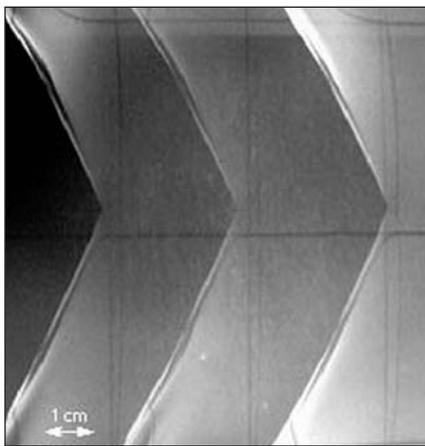

Figure 1. Multiple-exposure photograph of a crack propagating in a rubber sample ( $\lambda_x = 1.2$ ,  $\lambda_y = 2.4$ ); speed of the crack,  $\sim 56$  m/s.
Figure 1. Scanning electron micrograph showing a complex structure consisting of welded  $\text{SiO}_2$ -single-walled carbon nanotubes. Reprinted with permission from *Chem. Mater.* **16** (14) (July 13, 2004) p. 2692. ©2004 American Chemical Society.
cate solution. Addition of ethanol induces the formation of silica acid,  $\text{Si}(\text{OH})_4$ , which quickly condenses onto SWNT surfaces to form polysilicic acid, that is, amorphous silica. The suspension consists of individual and bundled SWNTs, so the coated structures consist of individual and bundled SWNTs as well. Colorado and Barron also prepared films that they said formed mats composed of overlapping and interwoven coated tubes and bundles. The researchers said that scanning electron microscopy revealed a variety of unique nanostructures, including loops, curls, interconnects, and bridging structures (see Figure 1). Furthermore, the researchers showed that the coating process effectively fastens short tubes together to form longer structures. Colorado and Barron said that they are now "examining the potential of solution-based methods of producing silica-coated SWNTs and mats for manipulating conducting/semiconducting SWNTs and insulating coatings to assemble useful nanoelectronic devices."
All forms of this enantiomorphous compound are present as an isotropic liquid at temperatures above ~105°C and as a smectic liquid crystal at sufficiently low temperatures. Beyond that, interesting new phase transformations were observed, depending on the chiral composition of the materials. The even-membered chiral molecules (SS2, SS4, and RR4) were seen to transition into a mesophase, denoted as M2, that exhibited a striped "parquet-like" texture. In addition, SS4 and RR4 formed another mesophase (M1) between the isotropic liquid phase and M2. This M1 phase is characterized by its optical isotropy, regardless of orientation. Peaks observed during differential scanning calorimetry (DSC) experiments verify that M1 and M2 are thermodynamically real phases rather than simply transient or metastable molecular organizations. Furthermore, these phases represent "highly chiral" versions of the conventional antiferroelectric phase observed at intermediate temperatures. The SS4–RR4 phase diagram (Figure 1) summarizes the compositional and temperature features of this enantiomorphous liquid-crystal system.
Figure 1. Phase diagram between chiral molecule SS4 and the racemic mixture (SS4:RR4 = 1:1). Reprinted in part with permission from *Chem. Mater.* **16** (17) (August 24, 2004) p. 3213. ©2004 American Chemical Society.
As reported in the July issue of *Physical Review Letters* (105504), Petersan and colleagues identified the intersonic crack speed by the observation of shock fronts near the crack tip by high-speed photography (see Figure 1). The experiments were conducted using highly stretched sheets of rubber. In this nonlinear material, cracks in tension (mode I) exceeded the shear wave speed and traveled in the intersonic range between shear and longitudinal wave speeds. These results have important implications for understanding fundamental crack dynamics, demonstrating that the classical understanding of crack dynamics needs to be revised.
Figure 1. Bulk rare-earth aluminate glasses with the ALZ composition formed using the method described. No dopants were used for samples (a) and (b), while 5 wt%  $\text{Nd}_2\text{O}_3$ ,  $\text{Eu}_2\text{O}_3$ , and  $\text{Er}_2\text{O}_3$  were used for samples (c), (d), and (e), respectively. Image (f) shows x-ray diffraction patterns, while (g) shows differential thermal analysis data for the microbead and bulk forms, revealing their amorphous nature and similar thermal behavior. Reprinted with permission from *Nature* **430** (August 12, 2004) p. 762. ©2004 Nature Publishing Group.
in the August 12 issue of *Nature* (p. 761), binary eutectic compositions of alumina and rare-earth oxide ( $\text{Al}_2\text{O}_3\text{-RE}_2\text{O}_3$ , RE = La, Gd, Y) as well as  $\text{Al}_2\text{O}_3\text{:RE}_2\text{O}_3\text{:ZrO}_2$  (ALZ) ternary compositions were investigated. In their flame-spraying technique, particulate precursors were fed into a high-temperature hydrogen–oxygen flame, producing molten particles that were then quenched in water. Glassy beads of the material with diameters of less than 140  $\mu\text{m}$  were obtained. Beads with diameters in the range of 75–109  $\mu\text{m}$  (selected by sieving) were consolidated into bulk glasses by sintering the beads at a temperature within the kinetic window—between  $T_g$  (the glass-transition temperature) and  $T_x$  (the crystallization temperature). X-ray diffraction, differential thermal analysis, optical microscopy, and scanning electron microscopy revealed that the bulk glass that formed remained amorphous and transparent (see Figure 1).
Figure 1. Optoelectronic response to light of nanotube field-effect transistors coated with PmPV (blue trace) and P3OT (green trace). Shaded regions (blue: UV light,  $\lambda = 365 \text{ nm}$ ; green: visible light,  $\lambda = 550 \text{ nm}$ ) and unshaded regions mark the light-on and -off periods, respectively. Reprinted in part with permission from *Nano Lett.* 4 (9) (September 8, 2004) p. 1590. ©2004 American Chemical Society.
ing devices, distinct and independent absorption behavior is observed, as shown in the current-versus-time response to light illumination of the modified NT-FETs (Figure 1). Therefore, depending on the type of light-sensitive polymer used for the coating, the nanodevices can be tuned independently.